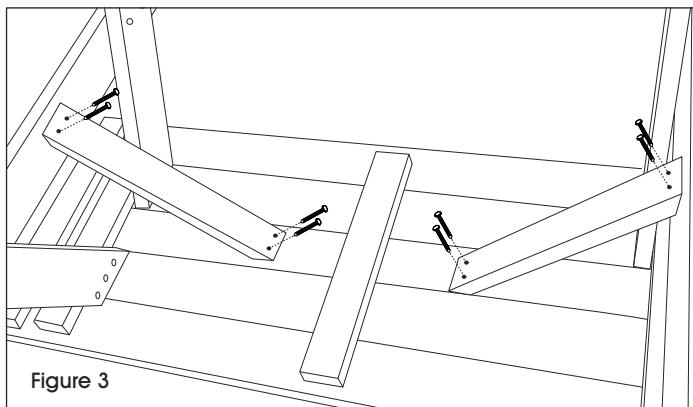

Figure 3
7. Make sure the legs are perpendicular to the table top to ensure table top is level. Pre-drill and attach diagonal braces using four 2 1/2" wood screws to the cross-member and preassembled table top. (See Figure 3)